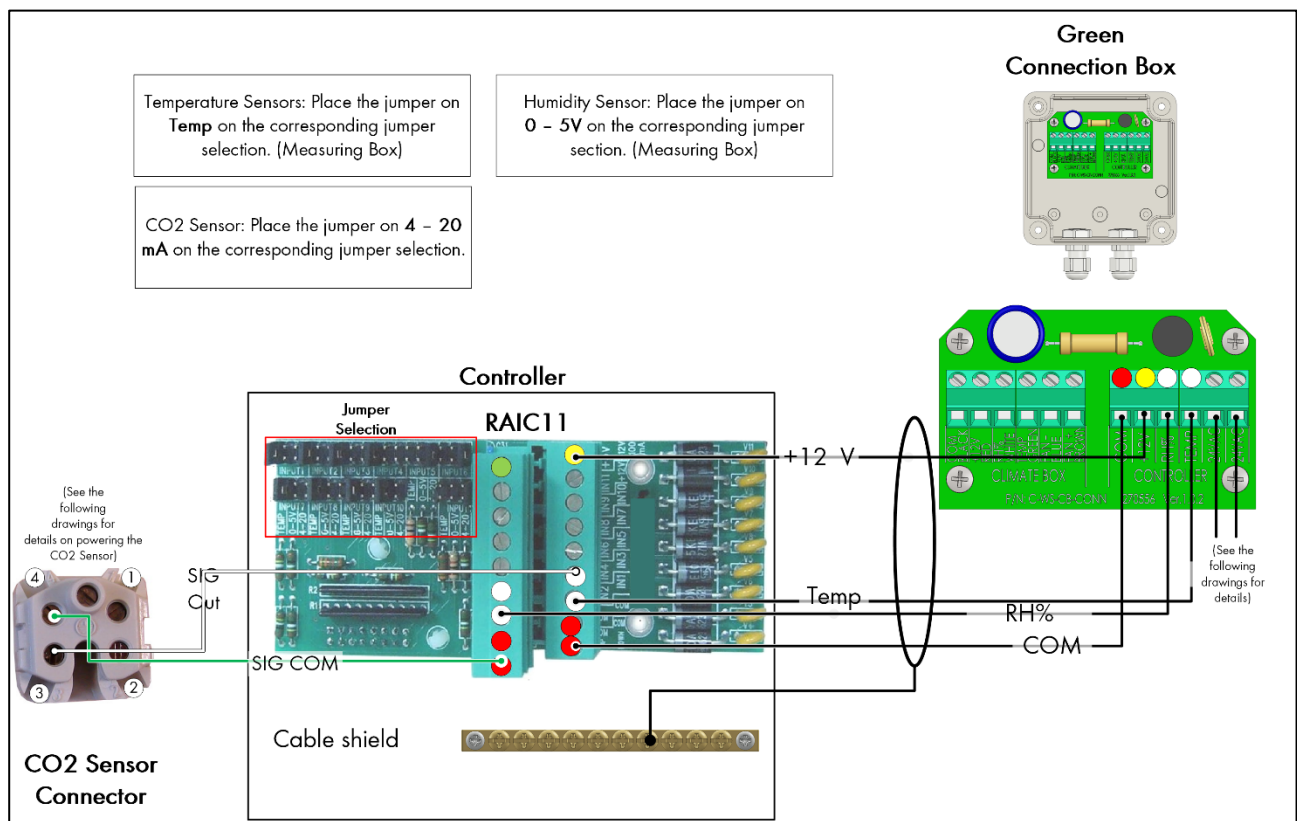

Figure 1: Green Connection Box - Controller RAIC11 wiring (example)
- The Green Box Connection Box comes prewired to the sensors. Those wires are not shown in Figure 1.